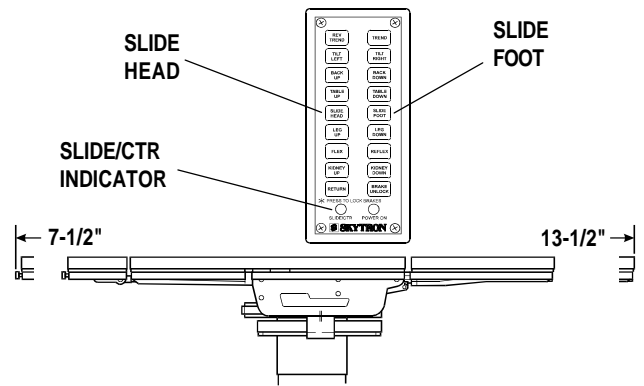

Figure 2-8. Top Slide
f. **Top Slide.** To move the table top toward the head end, press the SLIDE HEAD button. From center position, the top will slide up to 7-1/2". See figure 2-8.